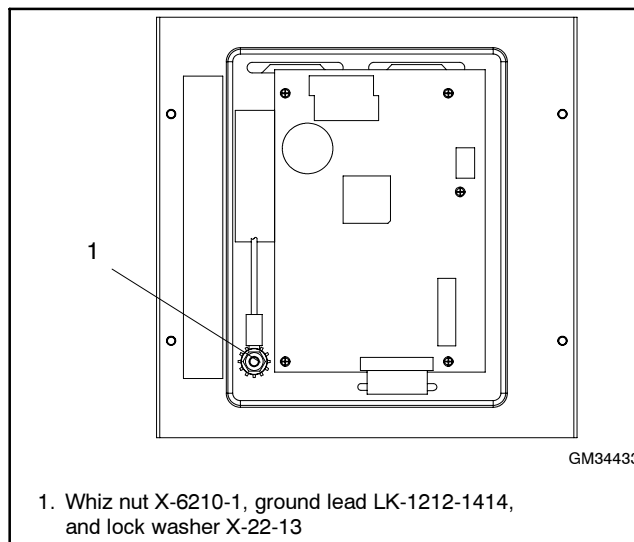

Figure 18 RSA Front Panel Assembly Ground Connection (Back View of Front Panel)
- 4.3 Attach the mounting box ground wire to the RSA front panel assembly stud by installing lock washer X-22-13, ground wire, and whiz nut X-6210-1. See Figure 18.